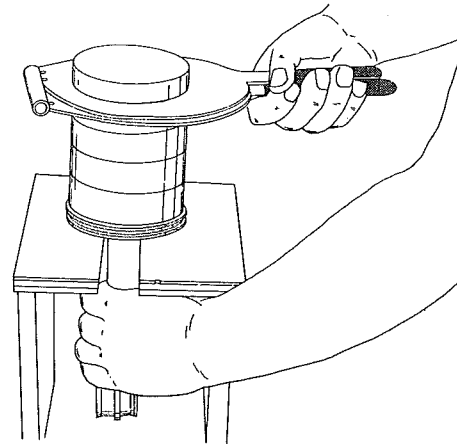

FIG. 31—REMOVING PISTON RINGS
b. Remove the rings from the piston with a suitable ring expander as shown in Fig. 31.